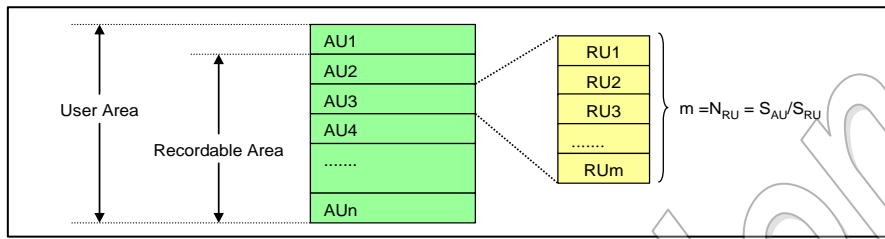

Figure 4-47 : Definition of Allocation Unit (AU)
4.13.1.1 Allocation Unit (AU)
The User Area is divided into units called "**Allocation Unit (AU)**" (Refer to Figure 4-47). AU is physical boundary in User Area of a card and is not defined by the file system boundary. Each card has its own fixed **AU Size (S_{AU})** and the maximum AU Size is defined depending on the card's capacity. The host should manage data areas with the unit of AU. If the first AUs in the card contain file system information
4.13.1.2 Recording Unit (RU)
Each AU is divided into units called "Recording Unit (RU)" (Refer to Figure 4-47). The unit of **RU Size (S_{RU})** is 16KByte. The RU Size is a multiple of 16KByte and shall not span across an AU boundary. Larger RU size may improve performance. The condition and requirement of the minimum RU Size is defined by Section 4.13.1.8.1. **The number of RUs in an AU (N_{RU})** is calculated from S_{AU}/S_{RU}.